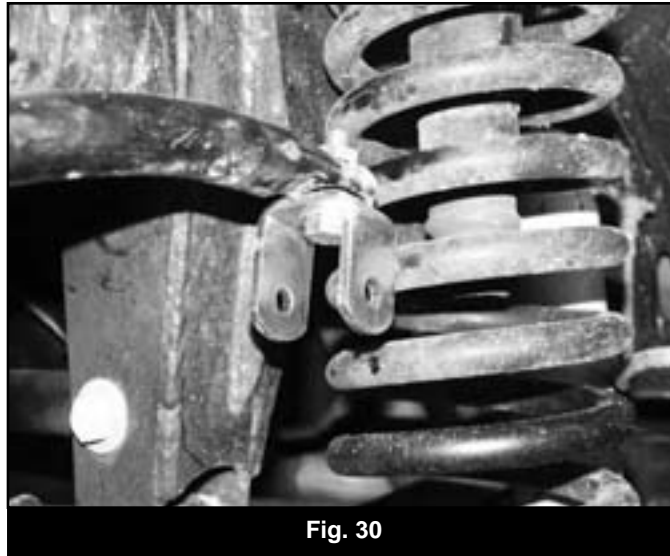

Fig. 30
75. Install the provided upper u-bracket (01325) to the sway bar using the original link mounting hole with a 7/16" x 1-1/2" bolt, nut, 7/16" SAE and 7/16" USS washers (BP 718). Install the bolt up through the u-bracket with an SAE washer into the sway bar. Fasten with the nut and USS washer. Position the bracket so that the thru-holes are parallel with the stud on the axle (Fig 30). Torque to 50 ft-lbs.